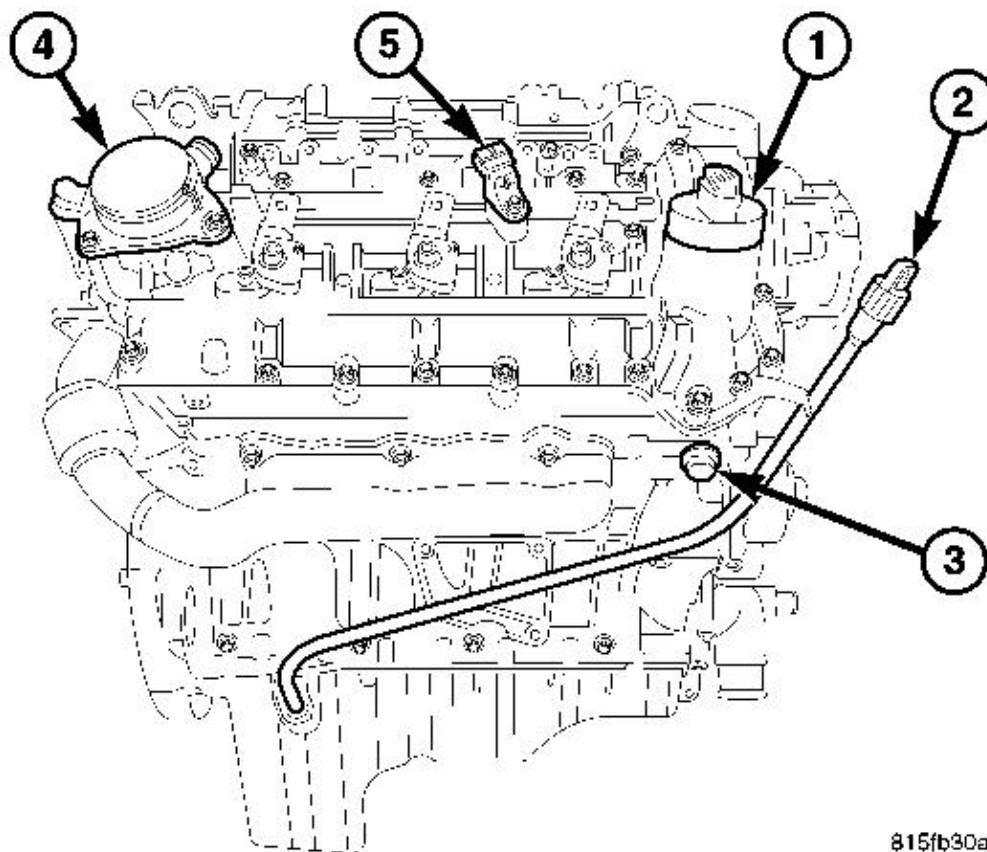

Fig. 75: Engine Oil Cap, Oil Level Indicator, Timing Chain Tensioner, Oil Separator Assembly & Camshaft Position Sensor
58. Remove the timing chain tensioner (3). See **Fig. 75**.